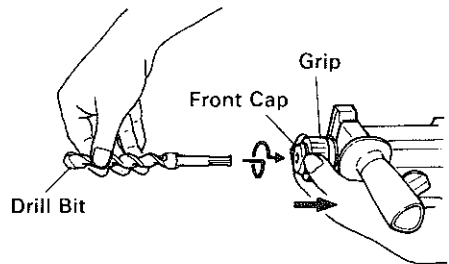
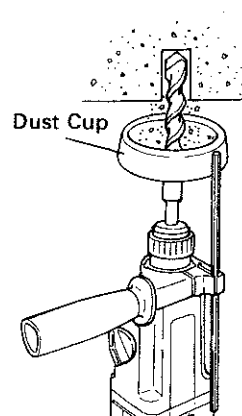
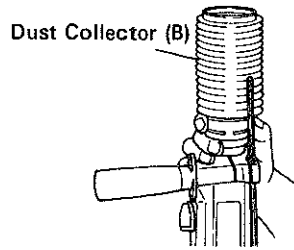

Fig. 2
Fig. 3
Fig. 4
### 5. Mounting the drill bit (Fig. 2)
(1) To attach a drill bit (SDS-plus shank), fully pull the grip in the direction of the arrow as shown in Fig. 2 and insert the drill bit as far as it will go while rotating.
(2) By releasing the grip, the drill bit will be secured.
(3) To remove the drill bit, fully pull the grip in the direction of the arrow and pull out the drill bit.
### 6 Installation of dust cup or dust collector (B) ass'y (Optional accessories) (Fig. 3, Fig. 4)
Use the dust cup by attaching to the drill bit as shown in Fig. 3.
- Installing the dust collector (B)
When using the dust collector (B), insert the dust collector (B) from the tip of the bit by aligning it to the groove on the grip. (Fig. 4)